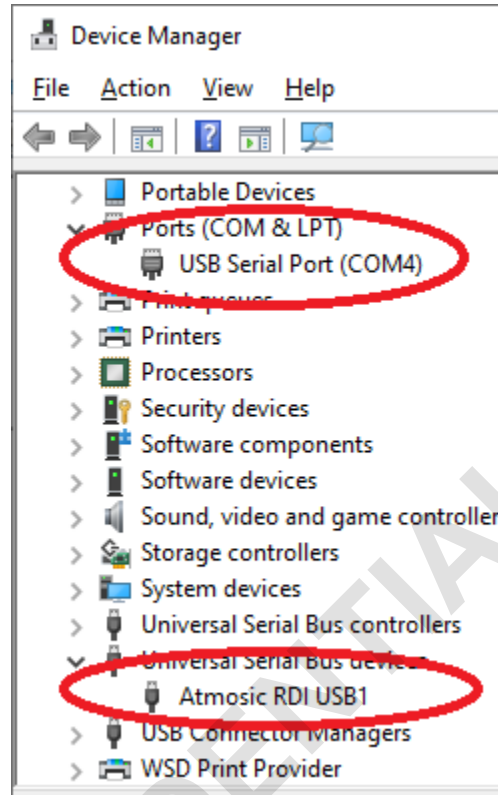

Figure 14 - RDI USB in Device Manager
- Figure 14 - RDI USB in Device Manager